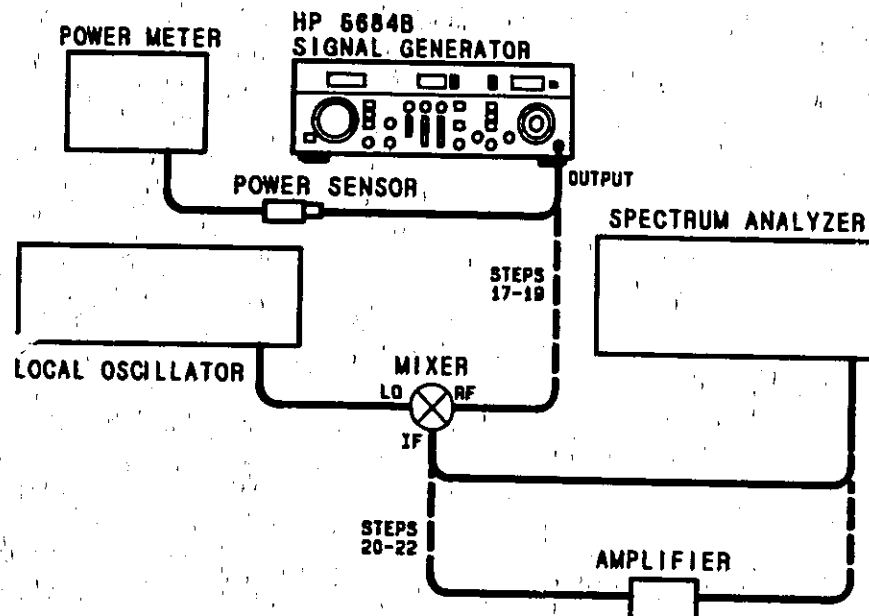

Figure 4-5. RF Output Test Setup
1. Connect standard power sensor to the power meter, as shown in Figure 4-5, and zero and calibrate the power meter.
17. Connect equipment as shown in Figure 4-5. Set local oscillator output level to $+10$ dBm. If maximum power available is less than $+10$ dBm, use maximum power. Then tune local oscillator to establish a 20 kHz difference frequency between the Signal Generator under test and the local oscillator.
20. Without changing Signal Generator settings, install the preamplifier between the output of the mixer and the input of the spectrum analyzer as shown in Figure 4-5. Set preamplifier gain to 20 dB.